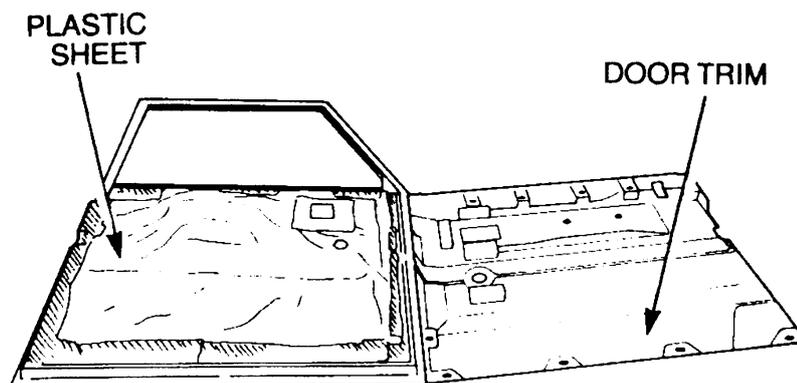

Figure 213 Door Trim Removal
- k. Remove the trim (Figure 213).